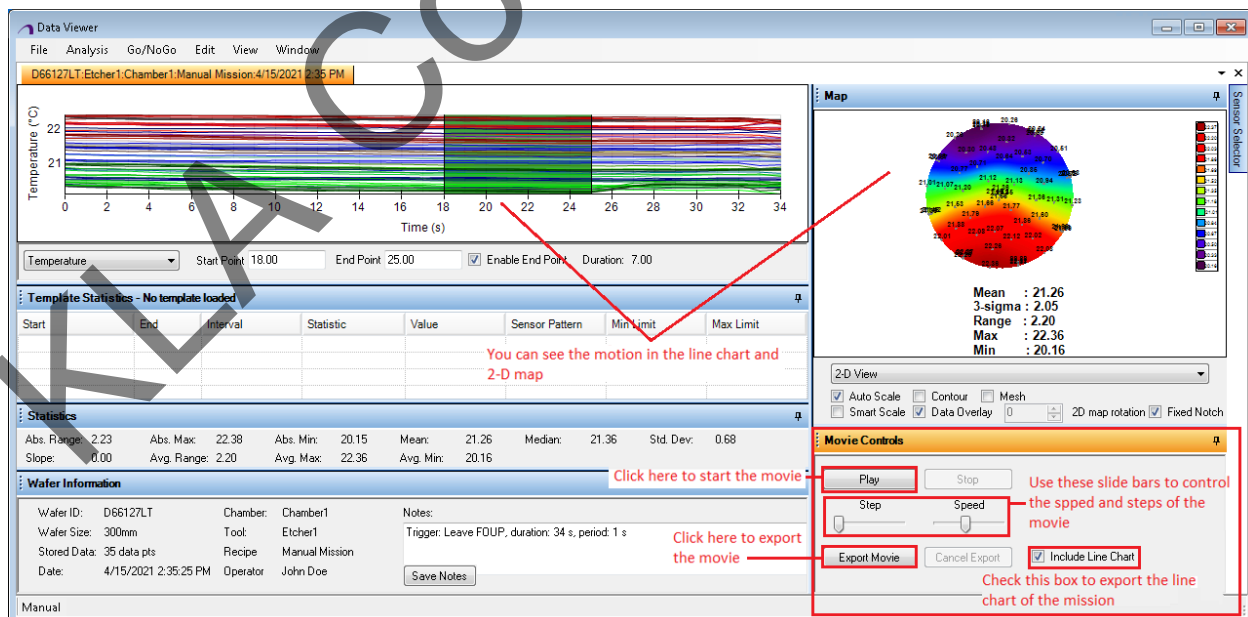

Figure 5-28 Movie Controls
1. Click the **Movie Controls** tab on right-side of the Data Viewer window. You can see the movie controls panel, as shown in Figure 5-28.